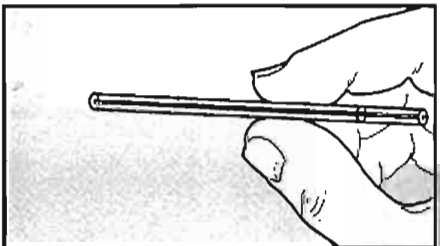

Figure 7. Tilting PRE-CAL Tube to Remove Blood from Collection Tip.
- f. Tilt the tube until blood flows about 1/8" in from the blood collecting tip; then keep the tube horizontal so that no blood is lost (Figure 7).